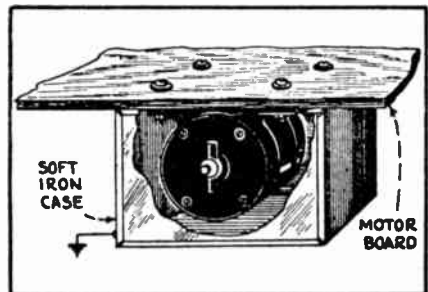

Fig. 59
(A) If grounding the frame of the motor does not eliminate the interference, it may be necessary to shield the entire motor in the manner shown in Fig. 59. The shield is to be made from soft iron sheeting, of any convenient thickness.